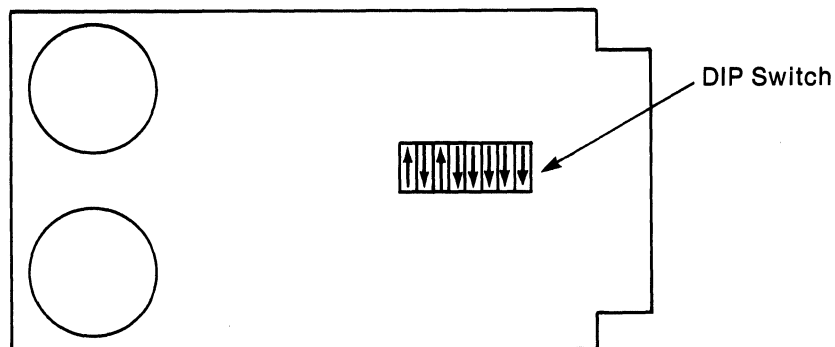

Figure 2-1. Parameter Storage Board
- a) Upon unpacking, verify that the DIP switches on the board are in the arrow directions shown in Figure 2-1. If they are not, remove the cover of the DIP switch assembly and set them as shown. (Numbers 1 and 3 are in "UP" or ON position. All others are in the "DOWN" or OFF position.)